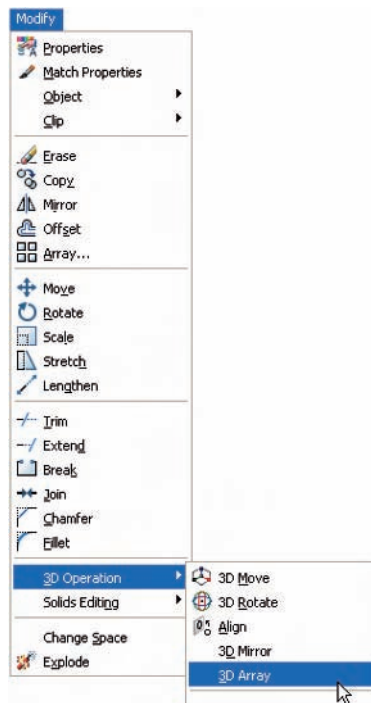

Fig. 15.11 Selecting **3D Array** from the **Modify** drop-down menu
2. *Click on **Modify*** in the menu bar and in the drop-down menu which appears *click on **3D Operation***, followed by another *click on **3D Array*** in the sub-menu which appears (Fig. 15.11). The command line shows: